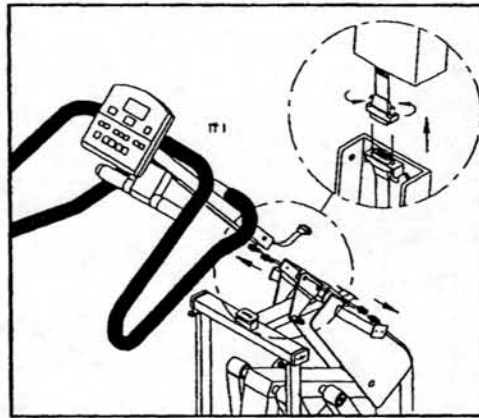

Fig.11-2
3. Take apart the UPRIGHT COLUMN from the FRAME SUPPORT and unplug the connectors of the RIBBON CABLE by unscrewing (see fig.11-2).